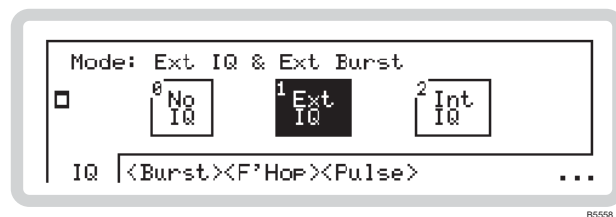

Fig. 3-62 Ext IQ modulation selected
- 1 Configure the modulation mode for external IQ modulation by pressing to see the IQ modulation mode screen and touching (Fig. 3-62). This screen's appearance may differ, depending on the options fitted to your instrument.